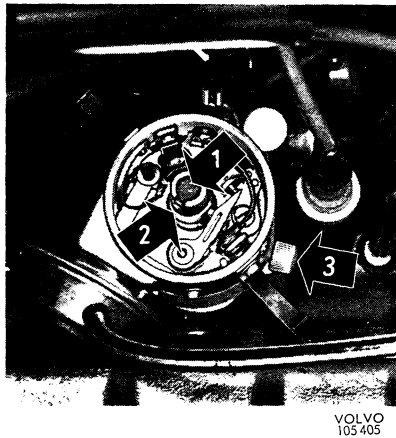

Fig. 1-8. Distributor
After every 10 000 km (6 000 miles) the distributor shaft, cam and ignition advance mechanism should be lubricated. The distributor shaft is lubricated by filling the oil cup (3, Fig. 1-8) with engine oil. After filling, close the cup. The contact surface of the cam disc (2) should be lubricated with a thin coating of grease, Bosch Ft 1 v 4, or corresponding grease. The ignition advance mechanism should be lubricated by pouring 2—3 drops of light engine oil (SAE 10 W) on the wick (1) in the distributor shaft.